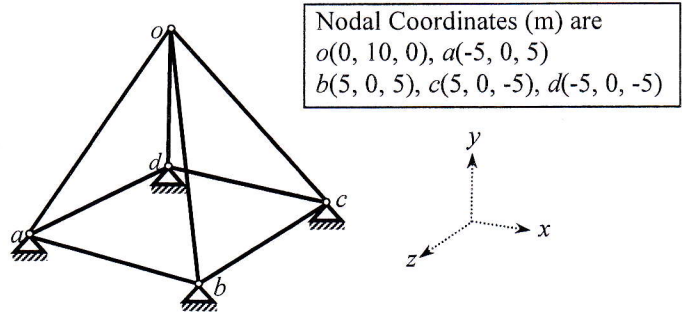

Fig. 2
2. Ignore zero-force members and apply boundary conditions to form the stiffness matrix of the space truss $oabcd$ shown in Fig. 2 [Given: $S_x = \text{constant} = 5 \text{ kN/mm}$].